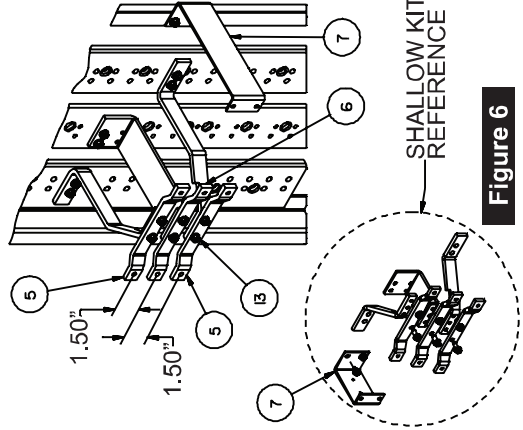

Figure 6
7. Refer to Figure 6: Install the link bars (Items 5 & 6). Insert two 1/4"-20 x 5/8" screws (Item 13) through the two 0.281" diameter holes in the B link bar (Item 6) & into the two 0.228" diameter holes in the B-phase strap and tighten. Repeat this step to mount the two A/C link bars (Item 5) to the A-phase & C-phase straps, orienting the link bars as shown so as to have 1.50" vertically between centers of the bars. Torque all screws as specified on the rear of the deadfront.